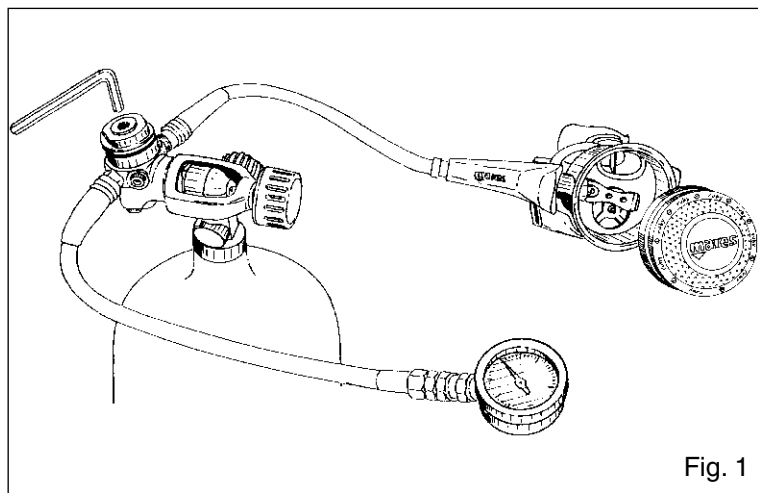

Fig. 1
5. Read the value of the first stage adjustment on the pressure gauge, and proceed as follows (Fig. 1):
- a. If the first stage pressure is greater than the required value (see table), use the wrench (B-13) to slowly back off the adjusting nut (16) until the required value is obtained.